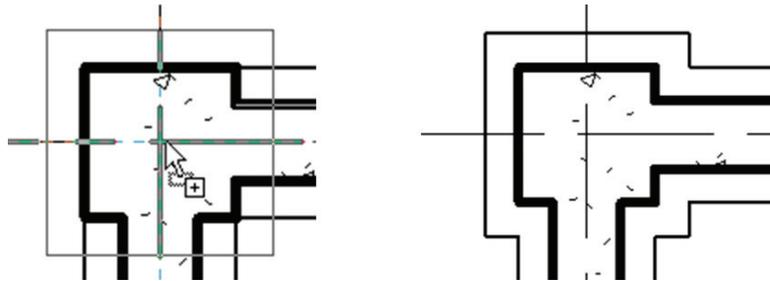

Figure 7-45
9. Zoom in and place the isolated footing underneath a pilaster. The isolated footing and wall footing automatically join together as shown in Figure 7-45.